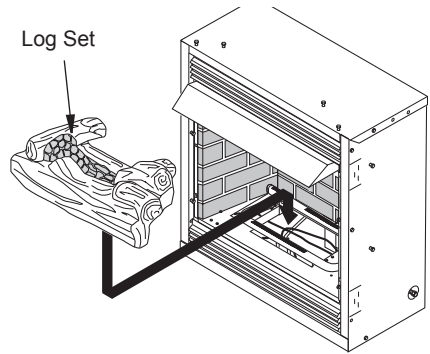

Figure 35 - Installing Log
4. Remove log packaging material and discard. Gently place log over burner (see Figure 35). (Do not allow log to contact flame as this will create sooting.)